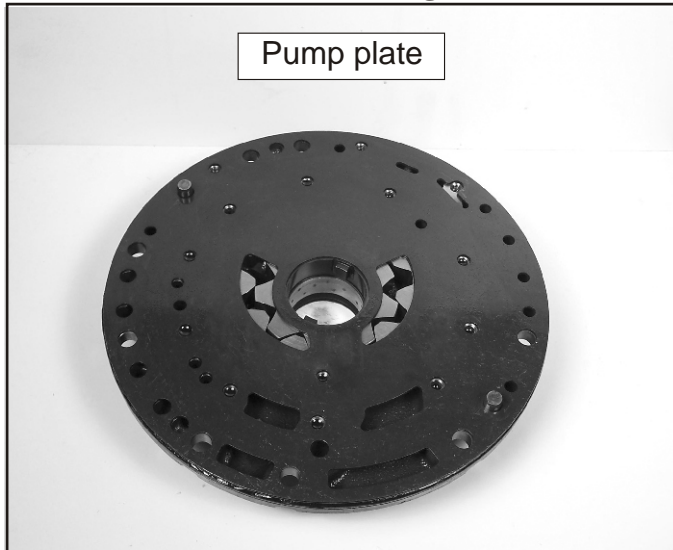

Figure 108
57. Remove the pump plate as shown, in Figure 108, and check for wear or scoring.